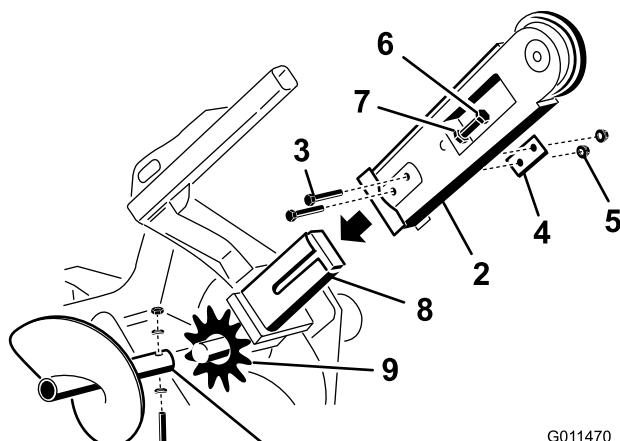

Figure 4
2. Remove the bolt, 2 saddle washers, and nut securing the spoils auger and remove the auger (Figure 4). Save the fasteners for future use.
3. Remove the 2 bolts, nuts, and double washers from the sides of the boom (Figure 4).
4. Loosen the adjusting bolt and jam nut (Figure 4).